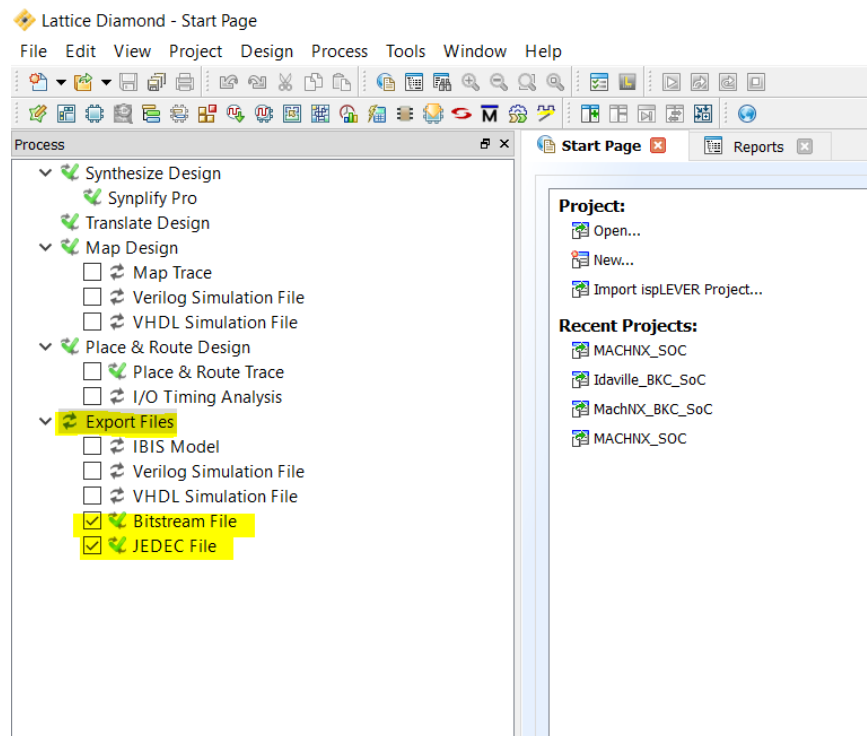

Figure 3.4. Click the Checkboxes for Bitstream File and JEDEC File
- Select the **Process** tab. Under **Export Files**, click the **Bitstream File** and **JEDEC File** checkboxes as shown in Figure 3.4.
- Double-click on the **Export Files** shown in Figure 3.4 to generate the signed .jed and .bit files. These files are signed with the auto generated key pair as a signature placeholder. This placeholder signature is later replaced with the signature generated by the customer key by the FST scripts.
- The green check marks, shown in Figure 3.4, indicate that the processes have completed and the .jed and .bit files have been created successfully.